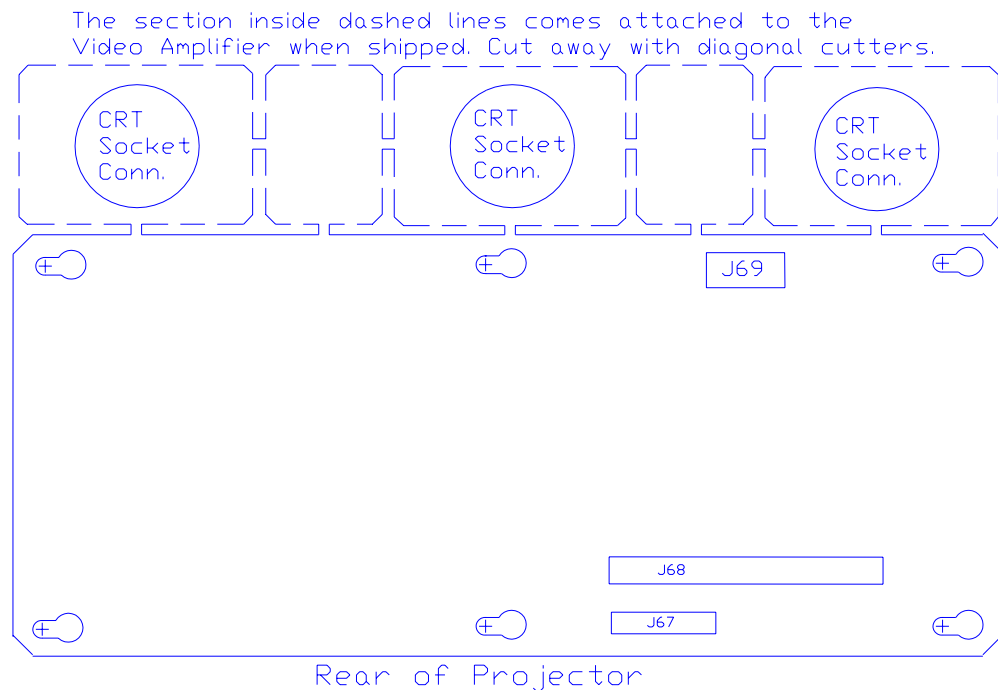

Figure 4-9. Video Amplifier PCB showing breakaway CRT Socket Connectors.
13. Reinstall in the reverse order from above. **NOTE:** The Video Amplifier PCB is shipped with the 3 CRT Socket Connectors attached at the end in a "breakaway" arrangement (*Figure 4-9*). Use a pair of diagonal cutters